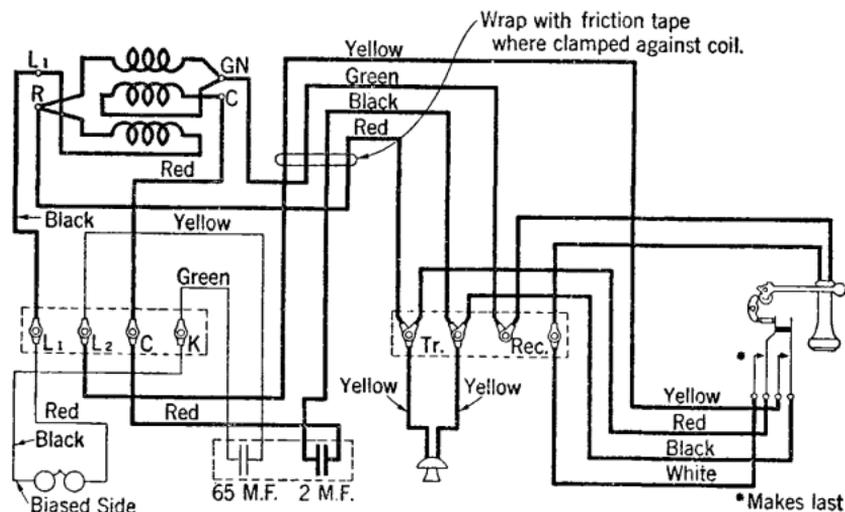

Fig. 1.
4.01 Connections for the set are shown in Fig. 1.